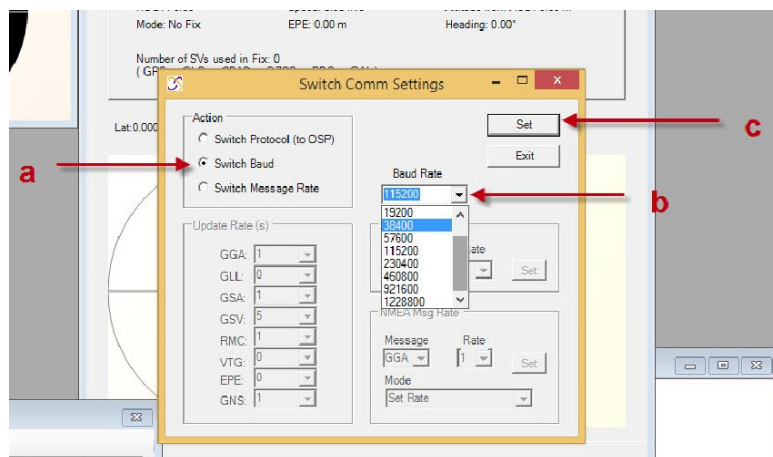

Figure 2 – Switching Comm Settings – Baud Rate
2. A “Switch Comm Settings” window will appear (See figure 2).